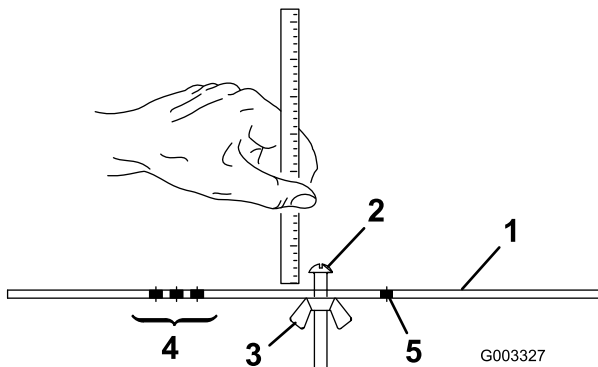

Figure 16
2. Loosen the nut on the gauge bar (Figure 16) and set the adjusting screw to the desired height of cut.